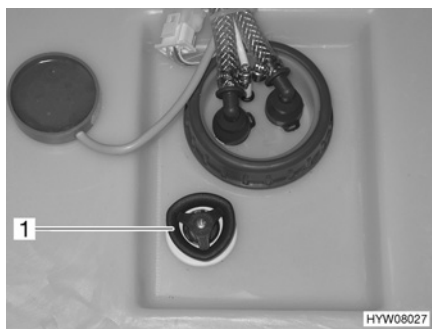

Fig. 104 Water tank with handle
- Turn the handle (Fig. 104,1) on the water tank in an anticlockwise direction as far as possible beyond the resistance to fully open the drainage opening.